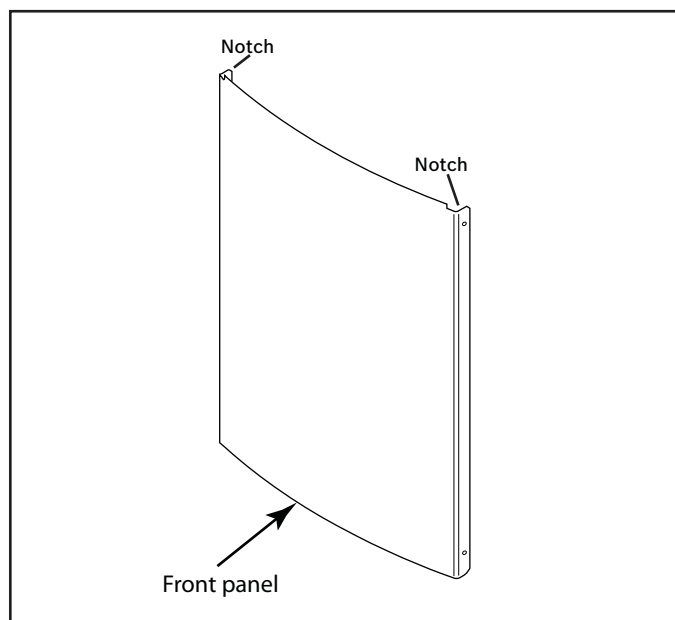

Fig. 7 Front panel
11. Fit the front panel with the 2 notches facing up. See Fig. 7.